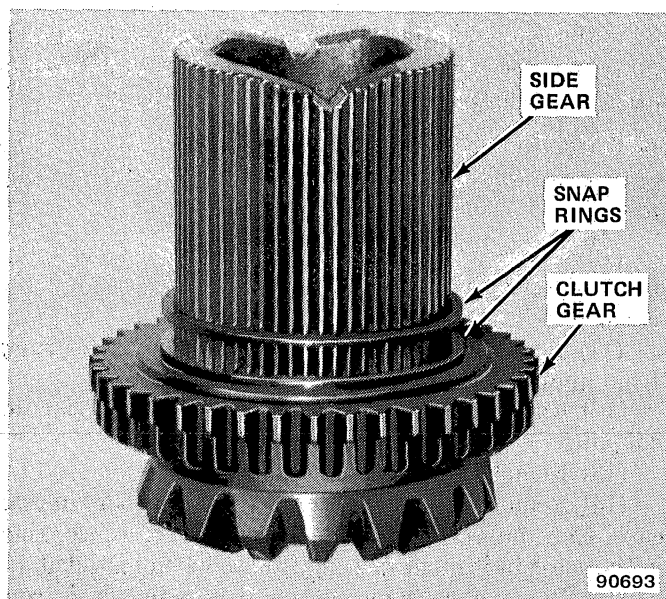

Fig. 2D-42 Side Gear Components
- (1) Remove and disassemble transfer case.
- (2) Install clutch gear on side gear (fig. 2D-42).
- (3) Install assembled clutch gear and side gear in viscous coupling.
(4) Mount assembled coupling and gears in vise. Place wood blocks between vise jaws and side gear and clamp side gear firmly (fig. 2D-43).
(5) Check engagement of clutch gear in viscous coupling. Be sure gear is fully engaged in coupling before proceeding. If necessary, loosen vise and reposition wood blocks so they support gear in coupling.
(6) Install rear output shaft in viscous coupling (fig. 2D-43).
(7) Install yoke on rear output shaft and install yoke retaining nut.